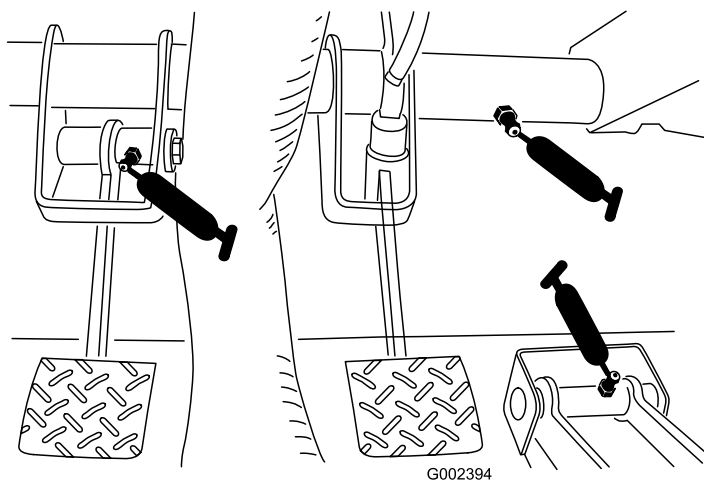

Figure 35
- Clutch (1), accelerator (1), brake (qty. 1) (Figure 35)